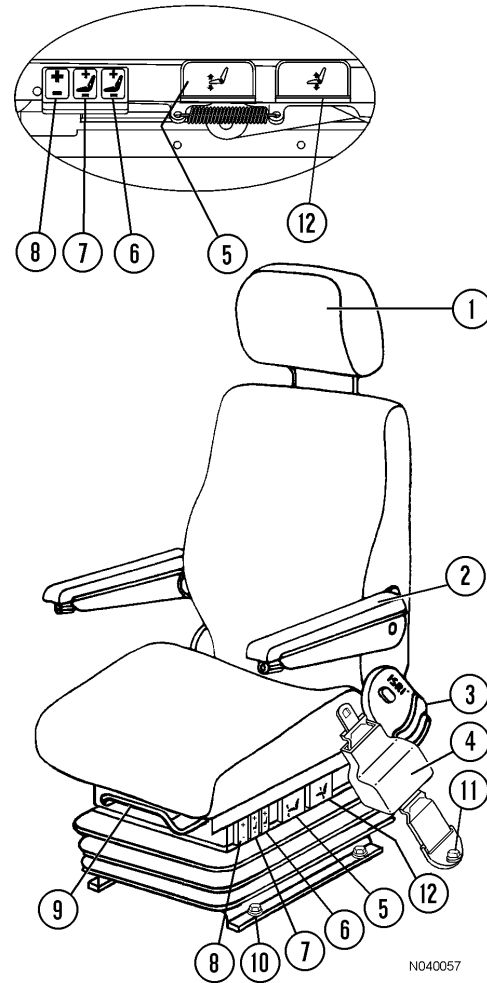

FIGURE 32-10. OPERATOR SEAT
1. **Headrest:** Move up, down, fore, or aft by moving headrest (1, Figure 32-10) to the desired position.
3. **Backrest:** Lift backrest adjustment (3) to release, and select the backrest angle. Release the control handle to set.
4. **Seat Belt:** The operator must have seat belt (4) buckled in place and properly adjusted whenever the vehicle is in motion.
5. **Seat Slope:** Lift seat slope adjustment (5) and hold to adjust the slope of the seat. Release the lever to lock the adjustment.
6. & 7. **Air Pillow Lumbar Support:** Each upper/lower air pillow lumbar support (6 or 7) controls an air pillow. Switch (7) controls the lower air pillow, and switch (6) controls the upper air pillow. To inflate, press on top of the rocker switch and hold for the desired support, then release. To deflate, press on the bottom of the rocker switch and hold for the desired support, then release. Adjust each pillow for the desired support.
8. **Seat Suspension:** Move suspension adjustment (8) up to increase ride stiffness and down to decrease ride stiffness.
9. **Horizontal Adjustment:** Lift horizontal adjustment (9) and hold. Bend knees to move the seat to a comfortable position. Release the control lever to the lock adjustment.
12. **Seat Height:** Lift seat height adjustment (12) and hold to adjust the height of the seat. Release the lever to lock the adjustment.